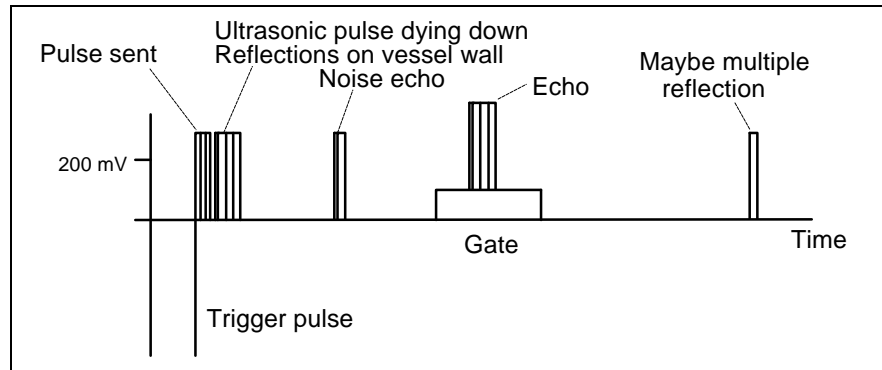

Figure 23: Signal at test output in pulse-echo method with lateral probe attachment
- If no echo pulses can be seen as illustrated in Figure 23, increase the transmission energy (P03) and/or the gain (P04) until ultrasonic signals are received continually.